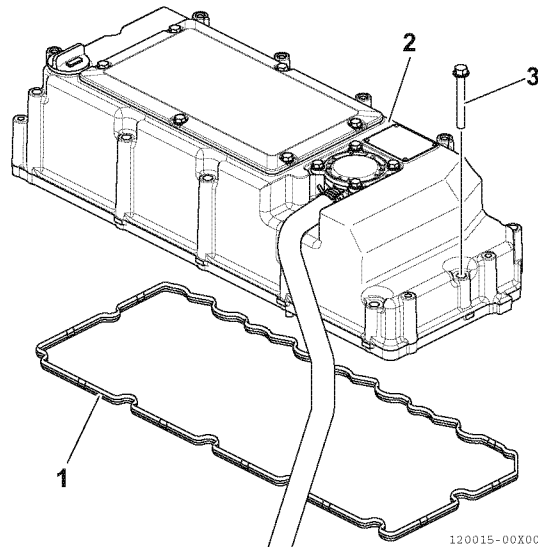

Fig.14-55
- 1 - Replace the bonnet gasket (1, Fig.14-55) with a new one. Lightly apply grease to the new gasket, and insert it to the bonnet groove (2, Fig.14-55). Place the bonnet on the cylinder head, and tighten it using 12 M6 bolts (Fig.14-55).